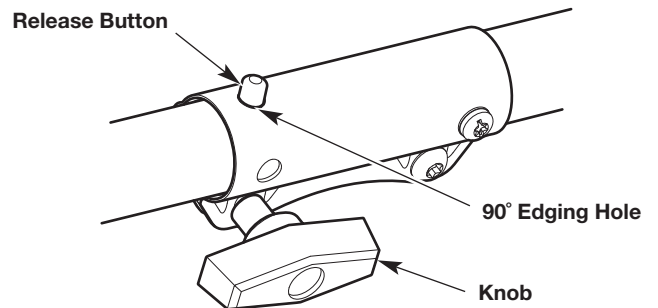

Fig. 16
1. Turn the knob counterclockwise to loosen the coupler (Fig. 16).
2. Press and hold the release button (Fig. 16).
3. Rotate the attachment until the release button snaps firmly into the 90° edging hole (Fig. 16).
4. Turn the knob clockwise to tighten the coupler (Fig. 16).